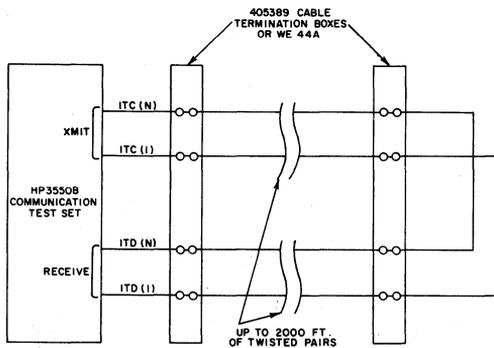

Fig. 21—Loop-loss Measurements
7.09 The Loop-Loss Tests require a HP-3550B Communication Test Set and two jumpers. Connect the test set as shown in Fig. 21. Perform the tests in Table E.
<ol style="list-style-type: none"> 1. With the test set connected as given in Fig. 21, set up the HP-3550B as instructed in Table D. 2. Set the MEAS-CAL switch to MEAS position.